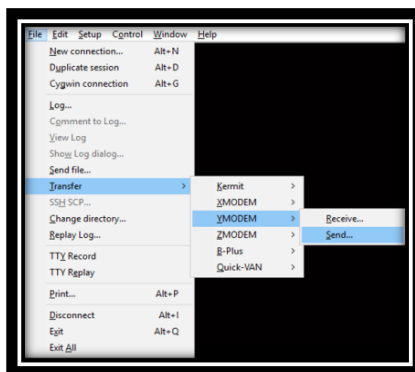

Figure 12: Load Image File
4. Choose menu **File > Transfer > YMODEM > Send** to select the image file for the **Bootloader**. See Figure 12.